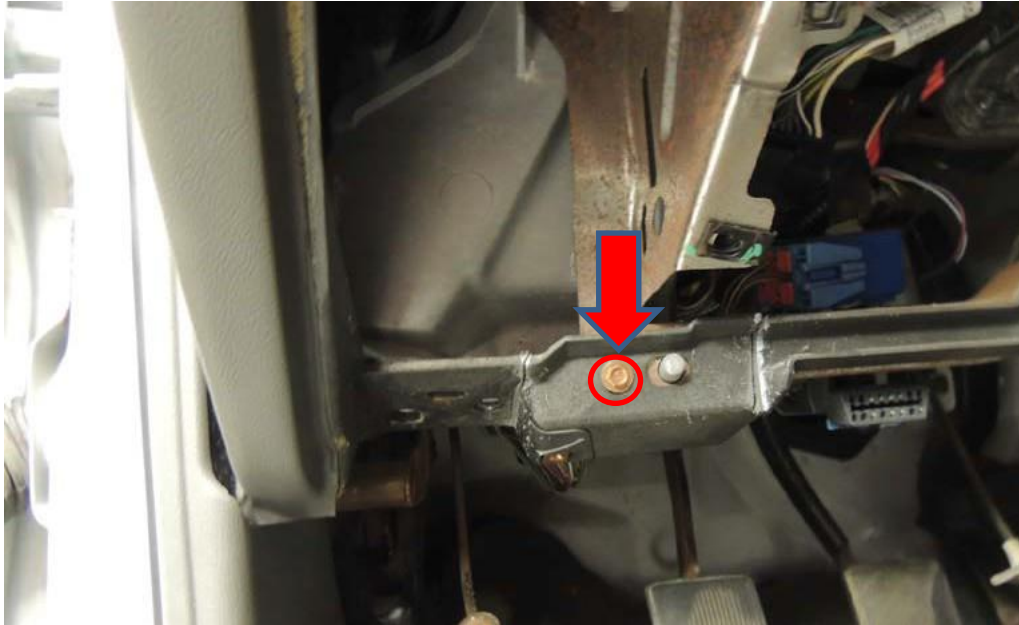

FIGURE 9
7. Remove the lower knee bolster bracket retainer. See Figure 9